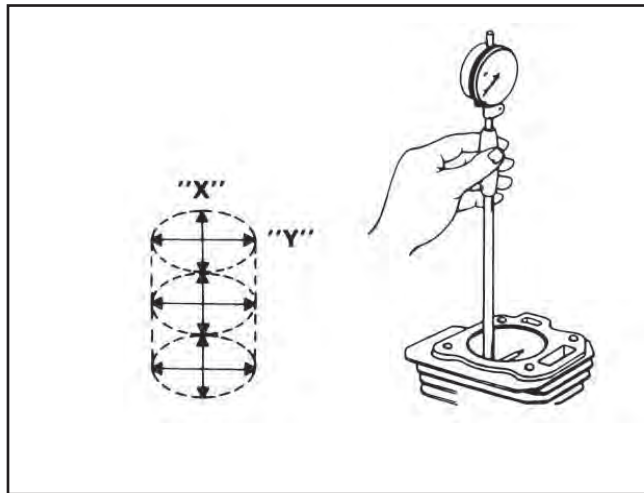

Figure 13
1. Inspect the cylinder bores (Figure 13).